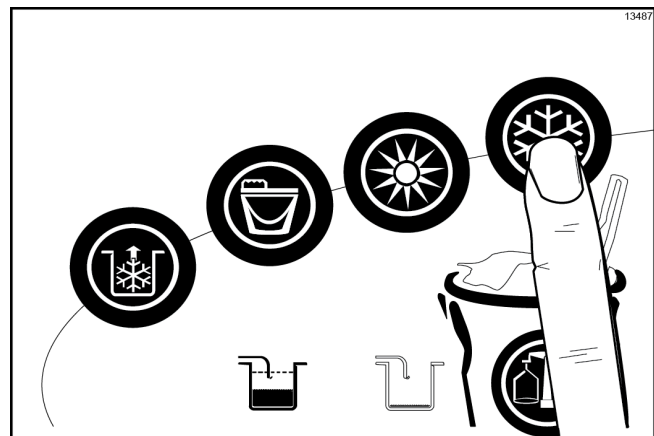

Figure-39
32. When ready to resume normal operation, press the Auto symbol . (See Figure-39.) The control has a feature in the Manager's Menu to enable or disable the Auto Start feature. When Auto Start is enabled, the machine will automatically exit the Standby mode and start both sides in the Auto mode at a designated time each day. (see page 80.)